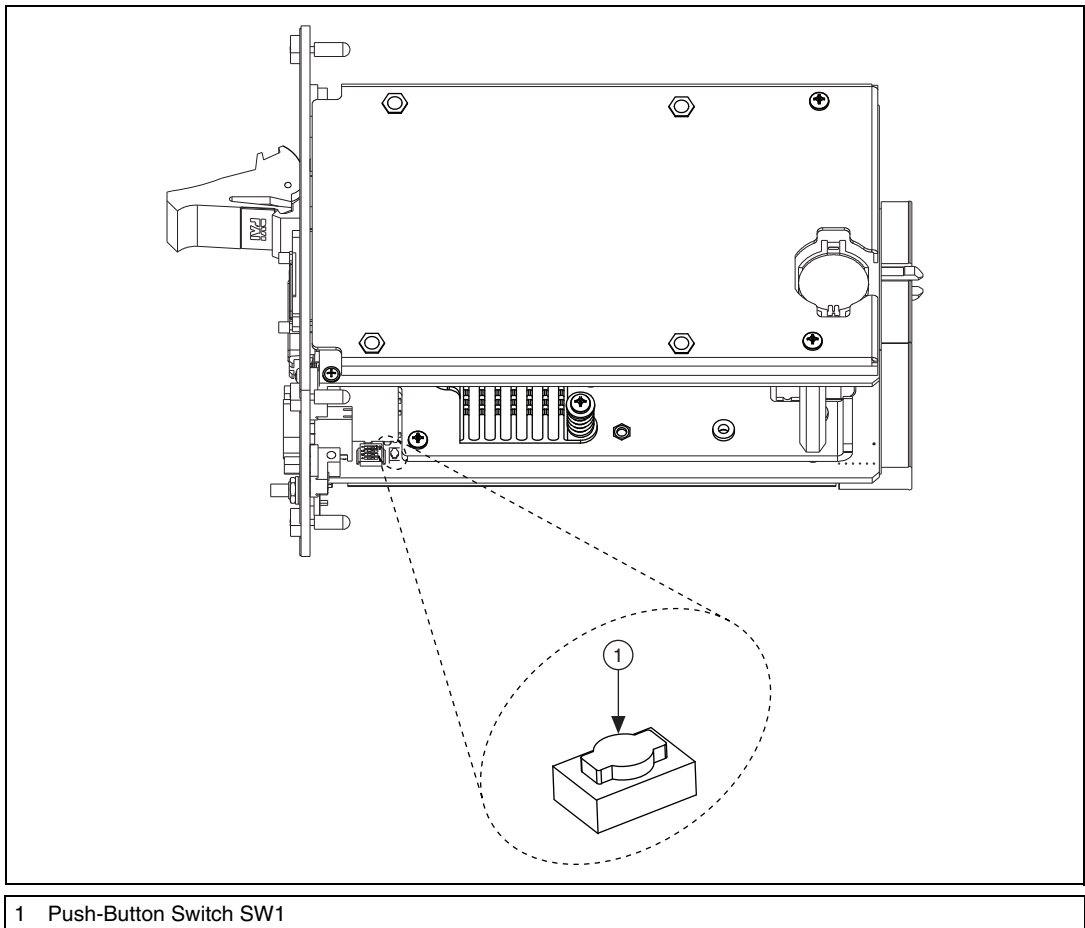

Figure 2-3. Clearing the CMOS Contents
3. Press and hold down the pushbutton switch SW1 for 2–3 seconds. The SW1 switch location is shown in Figure 2-3.